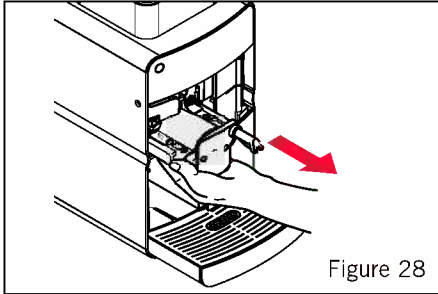

Figure 28
- Remove the brewing unit by gripping the front from underneath and pulling it out towards yourself. Use your other hand to stop it from falling out. See Figure 28.